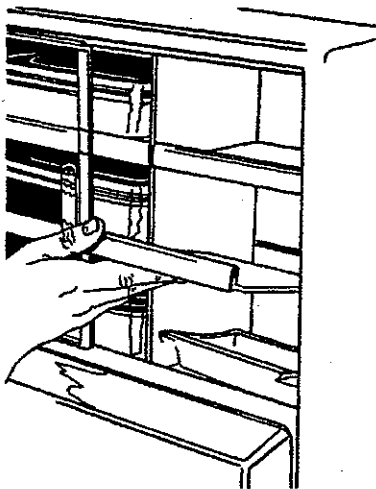

Figure 28
- b. Within the dairy module, many package sizes can be stored by moving shelves. Lift front edge of shelf and pull out at an angle to remove. See Figure 28.